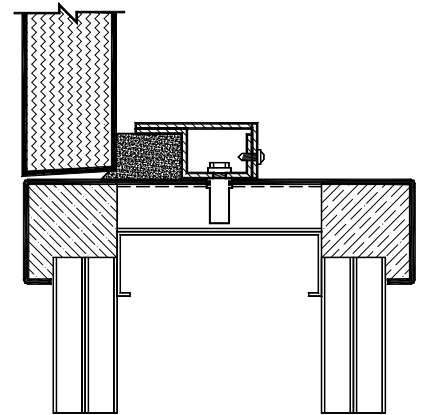

FIGURE 1
- 3. Installation In New Metal/Wood Stud Walls (Fig. 1 and 2).** Remove the steel spreader at the bottom and place the frame between the floor tracks. Using vertical wood braces and horizontal wood spreaders at the top, middle and bottom of the frame, square up, level and set the frame. Cross string the frame to ensure the jambs are properly set and then anchor to the studs and floor using the wall and floor anchors provided. Double king studs should extend to the slab above and minimum 16 Ga. is recommended for metal studs.